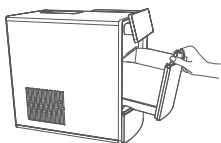

Figure 11
2.2.1 Pull the ice bucket out horizontally to the designated position (see Figure 11).